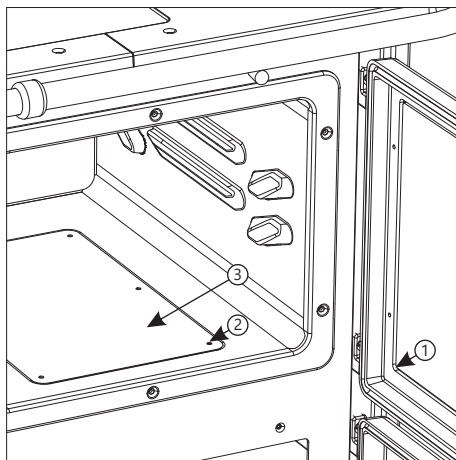

Figure 6
(Figure 6) - open the oven door (1), unscrew the 6 screws (2) on the bottom of the oven and remove the oven bottom lid (3). Use the auxiliary equipment to remove the accumulated soot from the cooker bottom and under the oven bottom. Return the oven bottom lid into the original position after cleaning and fasten it to the oven bottom with screws.